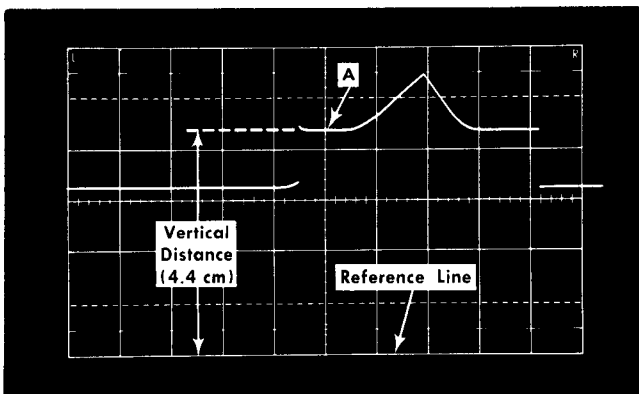

Fig. 3-2. Measuring instantaneous DC voltage with respect to a reference.
8. Measure the vertical distance in cm between the reference line and the point on the waveform at which the DC level is to be measured. For example, in Fig. 3-2 the measurement is made between the reference line and point A.
Example. Assume that the vertical distance measured is 4.4 cm (see Fig. 3-2) above the reference line when using a 10× attenuator probe and a V/CM switch setting of 2. Using the formula: